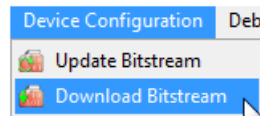

Figure 1-32: Download Bitstream
- Click on the **Windows Start** button, as shown in Figure 1-32.